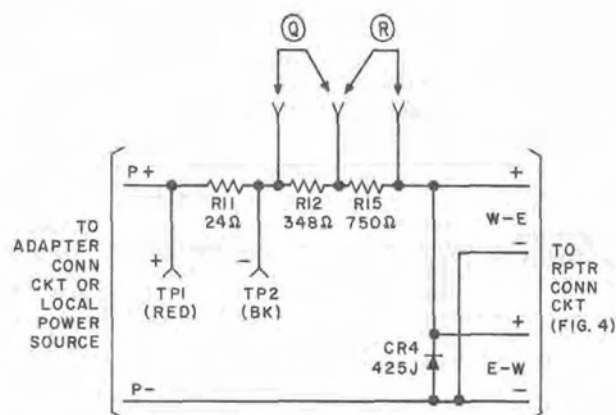
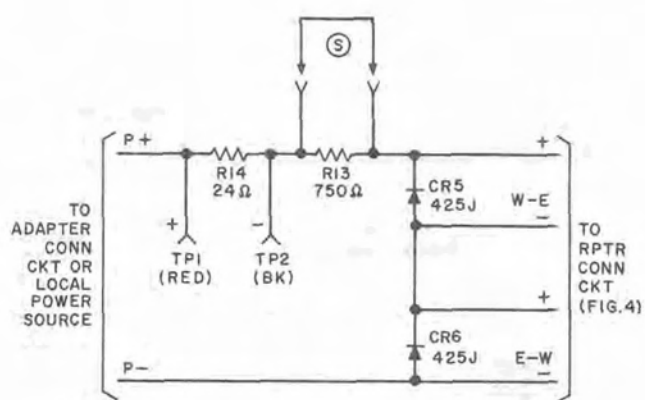

Fig. 6—N2 Repeater to N1 Adapter, List 1 or 3—Power Circuit for High-Low Repeater
Fig. 7—N2 Repeater to N1 Adapter, List 2 or 4—Power Circuit for Low-High Repeater
**3.06** The N2 repeater-to-N1 adapter, List 1 or 3, uses the power circuit shown in Fig. 6. Voltage regulating diode CR4 maintains a constant 22 volts across the E-W and W-E sections of a high-low repeater in a parallel connection. Power resistors R12 and R15 are used, as required, to limit the line current. The power circuit provided in a List 2 or 4 adapter is shown in Fig. 7. Two regulating diodes, CR5 and CR6, maintain a constant
**3.08** At a locally powered repeater point, the N2 repeater-to-N1 adapter must be used with the Q and R, or S options removed. For high-low repeaters, the power circuit shown in Fig. 6 is provided, and power resistors R12 and R15 limit the current to 95 mA. For low-high repeaters, the power circuit shown in Fig. 7 must be provided, and power resistor R13 limits the current to 110 mA. The power is supplied from the N1 repeater power supply, which uses a +130 volt power source, or a +152 volt source with dropping resistors. In either case the N2 repeater with the -N1 adapter directly replaces the locally powered N1 repeater, requiring no options or adjustments in the local power supply.